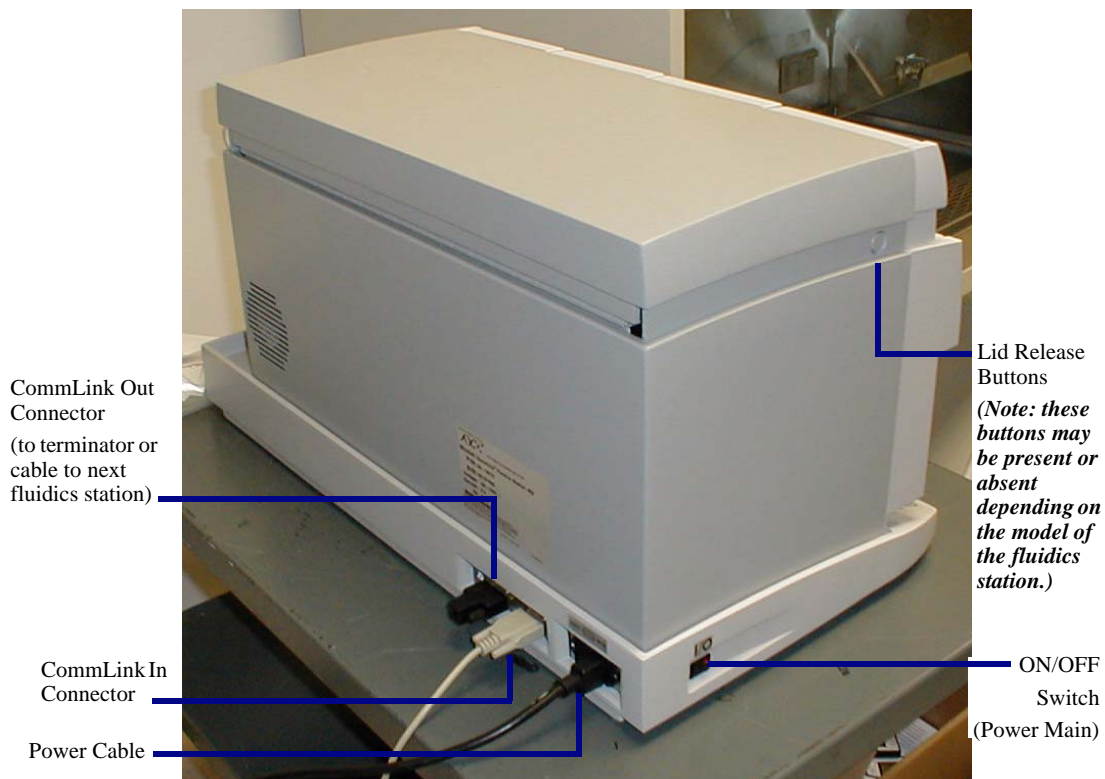

Figure 2.1
2. Check to ensure that the fluidics station is connected to the workstation. CommLink connections are located on the back of the fluidics station (Figure 2.1).
3. Flip the ON/OFF switch for the fluidics station to the **ON** position. The switch is located on the left side of the fluidics station (Figure 2.1). The LCD window should display the following: